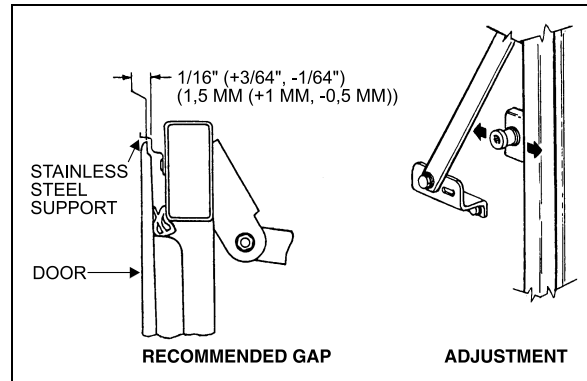

FIGURE 58: BAGGAGE COMPARTMENT DOOR 18069
6. Loosen the striker pins just enough to allow them to be moved with a hammer. Working from inside compartment and with the door closed (lower catches engaged), hit the pin washers to horizontally move the pins and consequently the door, while an outside assistant checks the fit. A gap of $1/16'' + 3/64'' - 1/64''$ (1,5mm +1mm, -0,5mm) between the stainless steel support for the lateral panel and the door panel lip is recommended (Fig. 58).